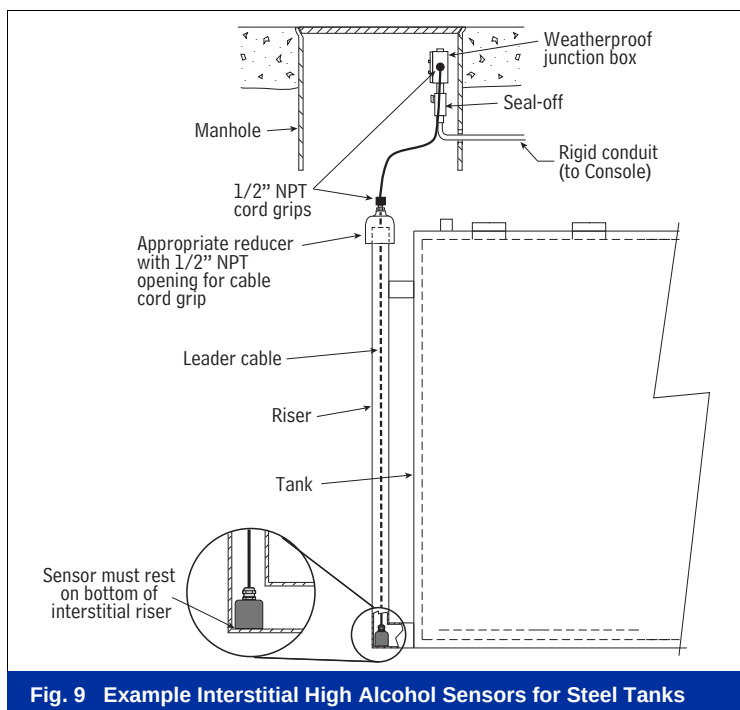

Fig. 9 Example Interstitial High Alcohol Sensors for Steel Tanks
- Installation example (see Fig. 9)